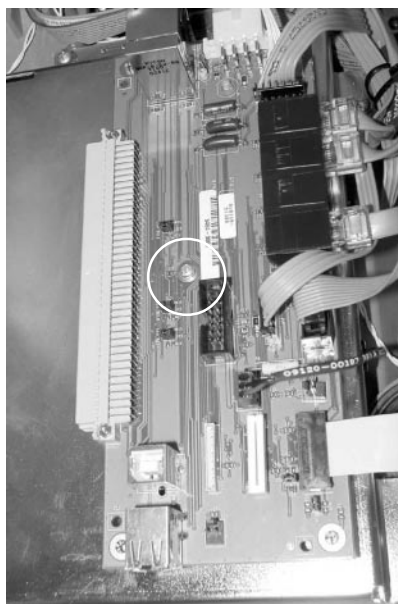

Figure 3-28. The FT5000 docking assembly.
7. Refer to Figure 3-28. Remove the screw in the center of the PCB (This screw is highlighted by the circle in Figure 3-28.) Assembly.
6. Refer to Figure 3-28. Remove the mounting screw in the center of the docking board (this screw is highlighted by the circle in Figure 3-28.) .
1. Carefully align and with equal pressure, seat all four (4) corners of the docking board onto the press fit standoffs.
2. Refer to Figure 3-28. Install the center mounting screw.